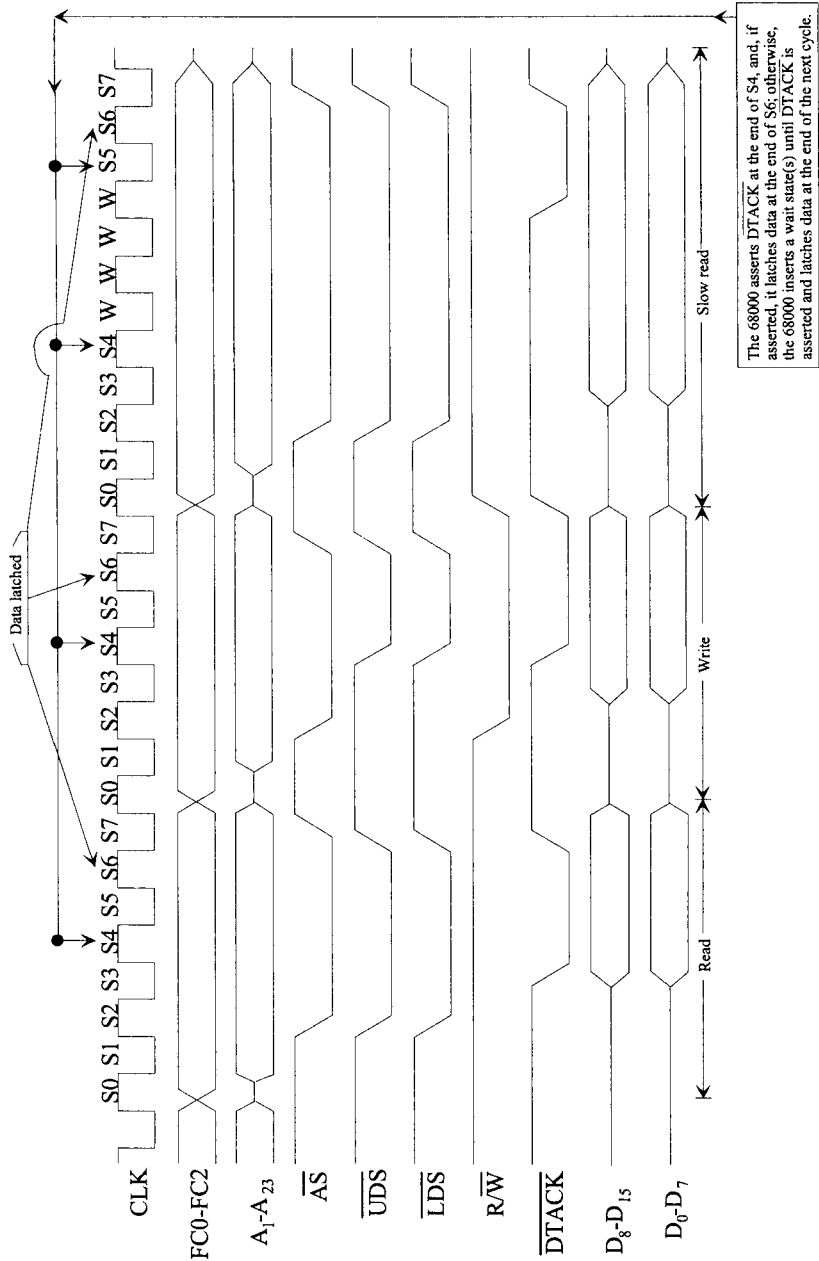
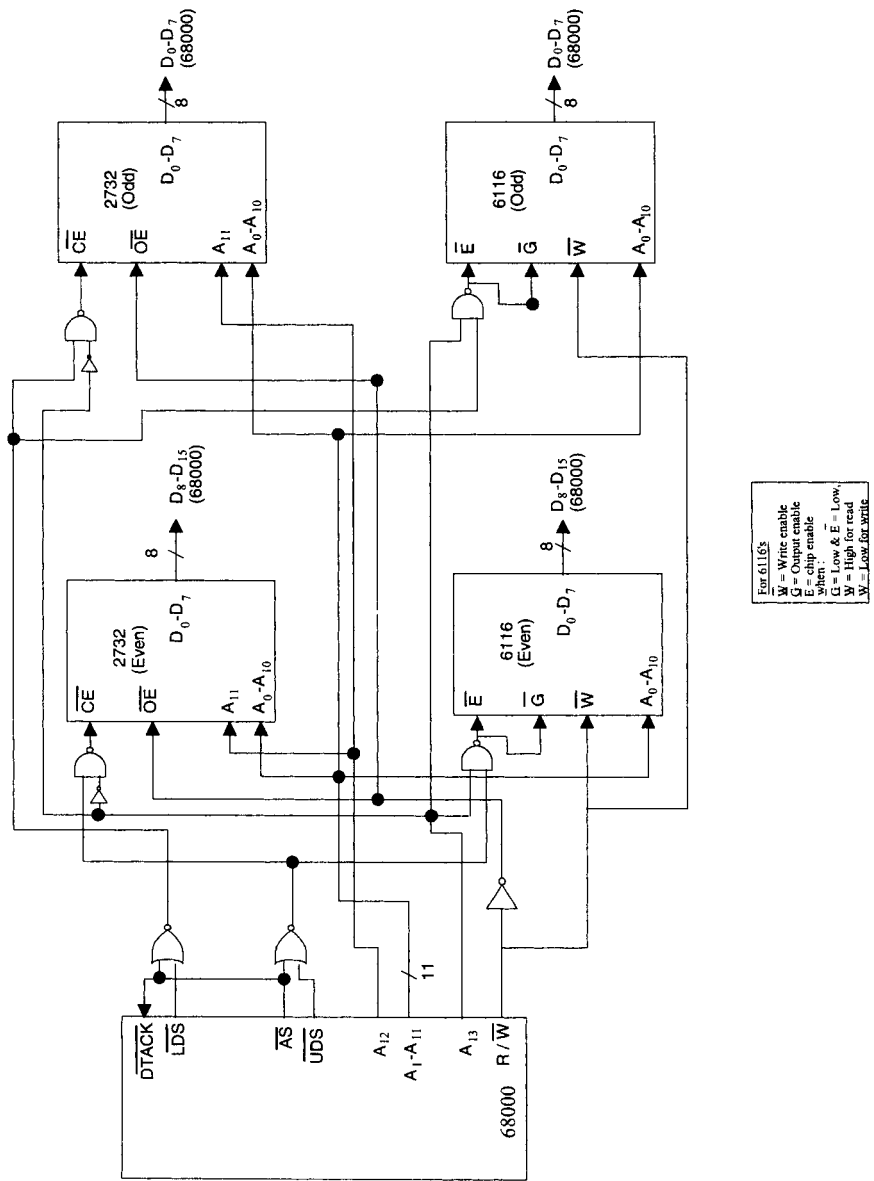
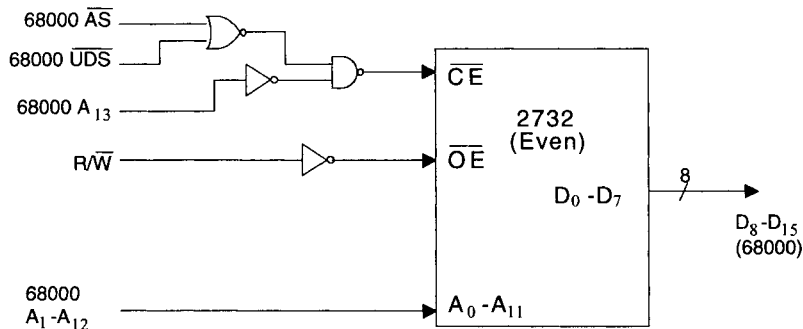

FIGURE 10.13 6800 Read and Write cycle Timing Diagrams
FIGURE 10.15 68000 interface to 2732 / 6116
FIGURE 10.16 68000 interface to even 2732
Figure 10.13 shows the read/write timing diagrams. During S0, address and data signals are in the high-impedance state. At the start of S1, the 68000 outputs the address on its address pins ( $A_1$ – $A_{23}$ ). During S0, the 68000 outputs FC2–FC0 signals.  $\overline{AS}$  is asserted at the start of S2 to indicate a valid address on the bus.  $\overline{AS}$  can be used at this point to latch the signals on the address pins. The 68000 asserts the  $\overline{UDS}$ ,  $\overline{LDS}$ , and  $R/\overline{W} = 1$  to indicate a READ operation. The 68000 now waits for the peripheral device to assert  $\overline{DTACK}$ . Upon placing data on the data bus, the peripheral device asserts  $\overline{DTACK}$ . The 68000 samples the  $\overline{DTACK}$  signal at the end of S4. If  $\overline{DTACK}$  is not asserted by the peripheral device, the processor automatically inserts a wait state(s) (W).
If  $\overline{DTACK}$  is not asserted by the peripheral at the end of S4 (Figure 10.13, SLOW READ), the 68000 inserts wait states. The 68000 outputs valid addresses on the address pins and keeps asserting  $\overline{AS}$ ,  $\overline{UDS}$ , and  $\overline{LDS}$  until the peripheral asserts  $\overline{DTACK}$ . The 68000 always inserts an even number of wait states if  $\overline{DTACK}$  is not asserted by the peripheral because all 68000 operations are performed using the clock with two states per clock cycle. Note in Figure 10.13 that the 68000 inserts 4 wait states or 2 cycles.
One of the advantages of the 68000 is that it can easily be interfaced to memory chips with various speeds because it goes into a wait state if  $\overline{DTACK}$  is not asserted (LOW) by the memory devices at the end of S4. A simplified schematic showing an interface of a 68000 to two 2732's and two 6116's is given in Figure 10.15. As mentioned in Chapter 9, the 2732 is a 4K × 8 EPROM and the 6116 is a 2K × 8 static RAM. The pin diagrams of the 6116 and 2732 are provided in Appendices C and E respectively. For a 4-MHz clock, each cycle is 250 ns. Because the 68000 samples data at the falling edge of S4 (750 ns) and latches data at the falling edge of S6 (1000 ns),  $\overline{AS}$  can be used to assert  $\overline{DTACK}$ . From the 68000 timing diagram of Figure 10.13,  $\overline{AS}$  goes to LOW after approximately two cycles (500 ns). The time delay between  $\overline{AS}$  going LOW and the falling edge of S6 is 500 ns. Note that  $\overline{LDS}$  and  $\overline{UDS}$  must be used as chip selects as in Figure 10.15. They must not be connected to A0 of the memory chips. Because in that case half of the memory in each memory chip would be wasted. Note that  $\overline{LDS}$  and  $\overline{UDS}$  also go to LOW after about two cycles (500 ns).
In Figure 10.15, a delay circuit for  $\overline{DTACK}$  is not required because the 2732 and 6116 both place data on the bus lines before the 68000 latches data. This is because the 68000 clock frequency is 4 MHz in this case. Thus, each clock cycle is 250 ns. The access times of the 2732 and 6116 are 200 ns and 120 ns respectively. Because  $\overline{DTACK}$  is sampled after 3 clock cycles (3 × 250 ns = 750 ns), both the 2732 and 6116 will have adequate time to place data on the bus for the 68000 to latch.
For example, consider the even 2732 EPROM of Figure 10.16.  $\overline{UDS}$  and  $\overline{AS}$  are NORed and then NANDed with inverted A13 to select this chip. With the 200-ns access time of the 2732 (Used to be 450ns), data will be placed on the 68000 D8–D15 pins after approximately 720 nanoseconds (500 ns for  $\overline{AS}$  or  $\overline{UDS}$  + 10 ns for the NOR gate + 10 ns for the NAND gate + 200 ns for the 2732). Therefore, no delay circuit for the 68000  $\overline{DTACK}$
In case a delay circuit for  $\overline{DTACK}$  is required, a ring counter with D flip-flops can be used. Let us now determine the memory maps. Figure 10.16 shows the 68000 interface to even 2732 obtained from Figure 10.15. When  $A_{13} = 0$ ,  $\overline{UDS} = 0$ ,  $\overline{AS} = 0$ , and  $R/\overline{W} = 1$ , the 2732 will be selected by the 68000 to read data from the 68000  $D_8-D_{15}$  pins. The 68000 address pins  $A_{23}-A_{14}$  are don't cares (assume 0). The memory map for the even 2732 can be determined as follows: